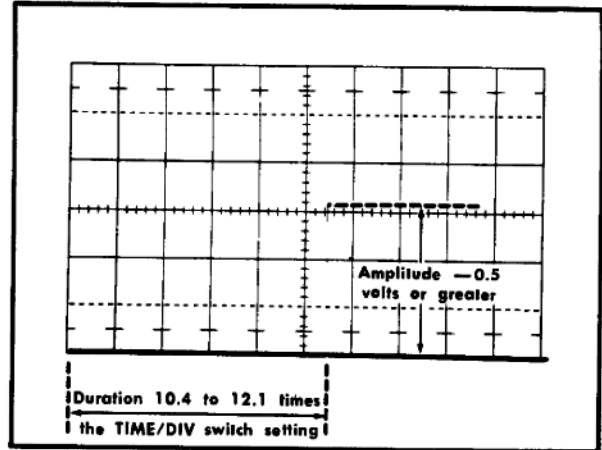

Fig. 5-21. Typical test oscilloscope display when checking the gate output signal. Vertical deflection, 0.2 volts/division; sweep rate, 2 milliseconds/division.
d. CHECK—Test oscilloscope display for 2.5 divisions or greater amplitude with the top of the waveform at the zero volt level. Gate duration should be 5.2 to 6.05 divisions (−0.5 volt or greater amplitude with duration of 10.4 to 12.1 ties the TIME/DIV switch setting; see Fig. 5-21).